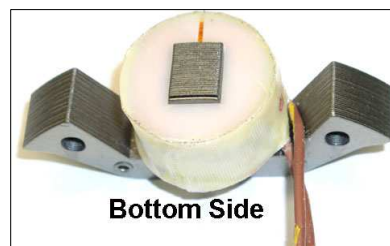
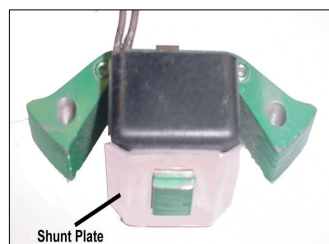

Fig. 4
Fig. 5
12. Slide the new coil on the stator frame (NOTE: The wires will come out on the side of the coil – not the bottom). Fold the wires towards the outside and route them down and under the frame. (Fig 4) If the old coil had shunt plates (Fig. 5), you **MUST** use the new shunt plate provided with the new coil. **If the old coil did not use a shunt plate, do NOT install one.** Bend the top frame lamination up and the bottom lamination down to lock the coil on the frame.